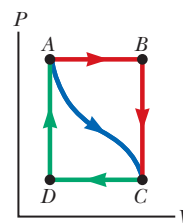

Figure P20.40
40. In Figure P20.40, the change in internal energy of a gas that is taken from  $A$  to  $C$  along the blue path is  $+800 \text{ J}$ . The work done on the gas along the red path  $ABC$  is  $-500 \text{ J}$ . (a) How much energy must be added to the system by heat as it goes from  $A$  through  $B$  to  $C$ ? (b) If the pressure at point  $A$  is five times that of point  $C$ , what is the work done on the system in going from  $C$  to  $D$ ? (c) What is the energy exchanged with the surroundings by heat as the gas goes from  $C$  to  $A$  along the green path? (d) If the change in internal energy in going from point  $D$  to point  $A$  is  $+500 \text{ J}$ , how much energy must be added to the system by heat as it goes from point  $C$  to point  $D$ ?